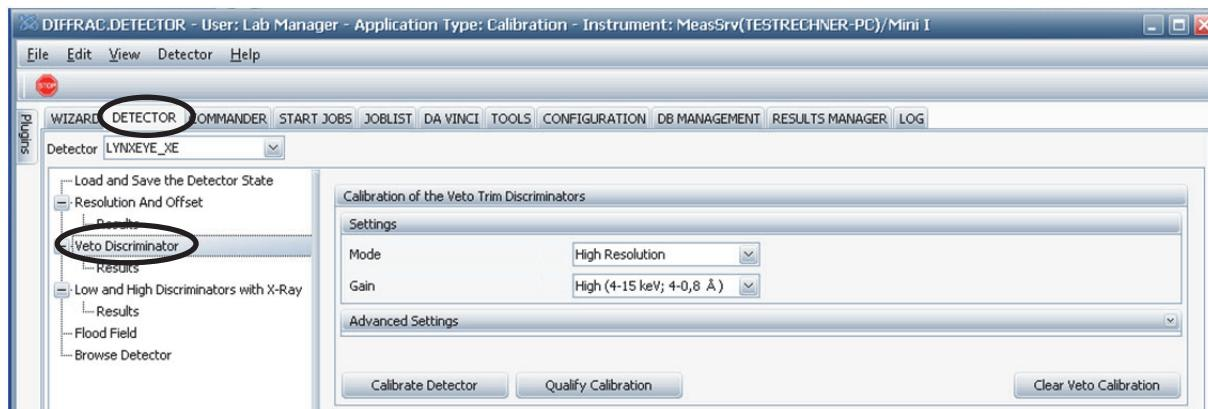

Figure 6.7: Selecting DETECTOR Plugin for Veto Discrimination
1. Open the DETECTOR plugin and select the LYNXEYE\_XE and activate the 'Veto Discriminator' (Figure 6.7).